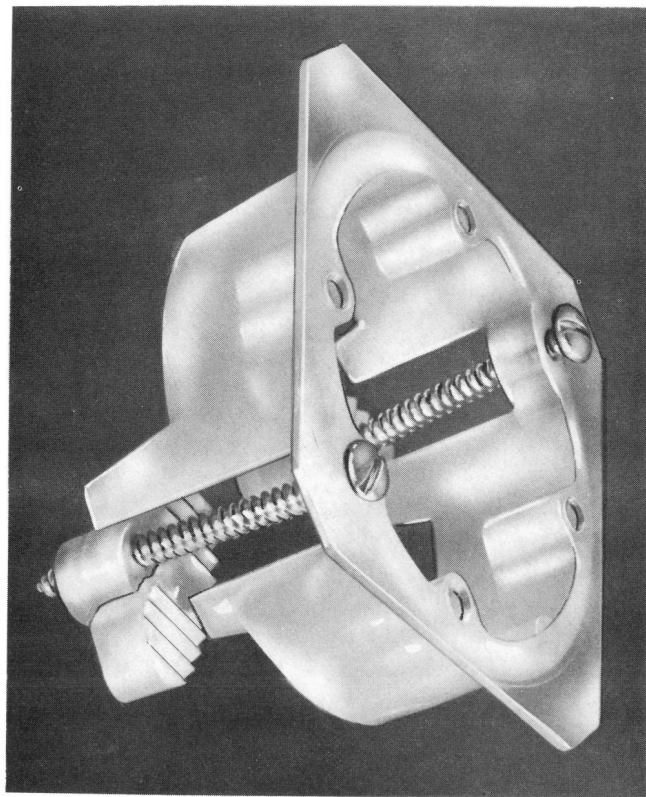

Fig. 13—KS-20502, List 2 Bracket
3.17 The KS-20502, List 2 bracket (Fig. 13) can be used for wall mounting 47-type connecting blocks where the wall material has already been applied to the studs. The bracket can be used on wall material up to 1-1/8 inches thick. For thin wall construction, it may be necessary to remove the breakoff portions of the bracket.